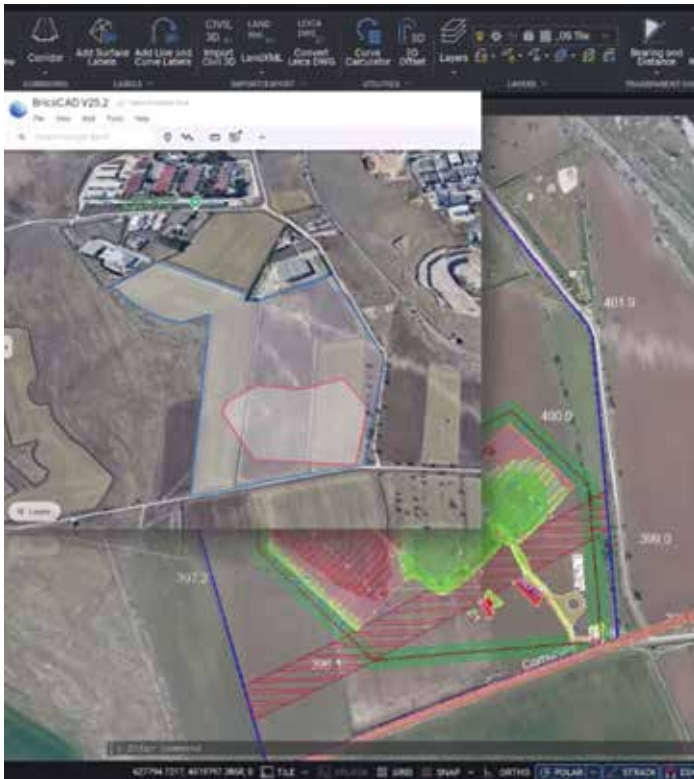

Figure 2
- Import and export KML/KMZ files to display data on Google Earth. (See Fig.2)